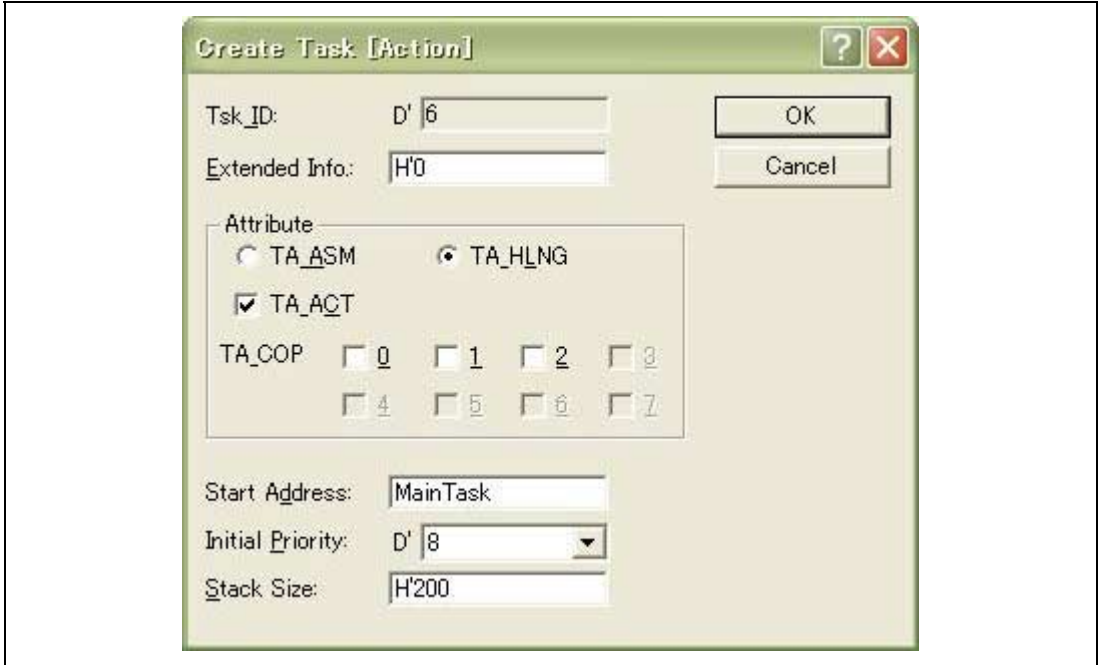

Figure 2.18 [Create Task] Dialog Box
- (18) Select [Debug->Halt Program] to stop the program execution. To create and initiate MainTask with a priority of 8 that is lower than Task7, select (highlight) task ID 6 in the [Task] window, and then select [Action->Create Task...] from the pop-up menu. This opens the [Create Task] dialog box. Make the entries as shown in figure 2.18.